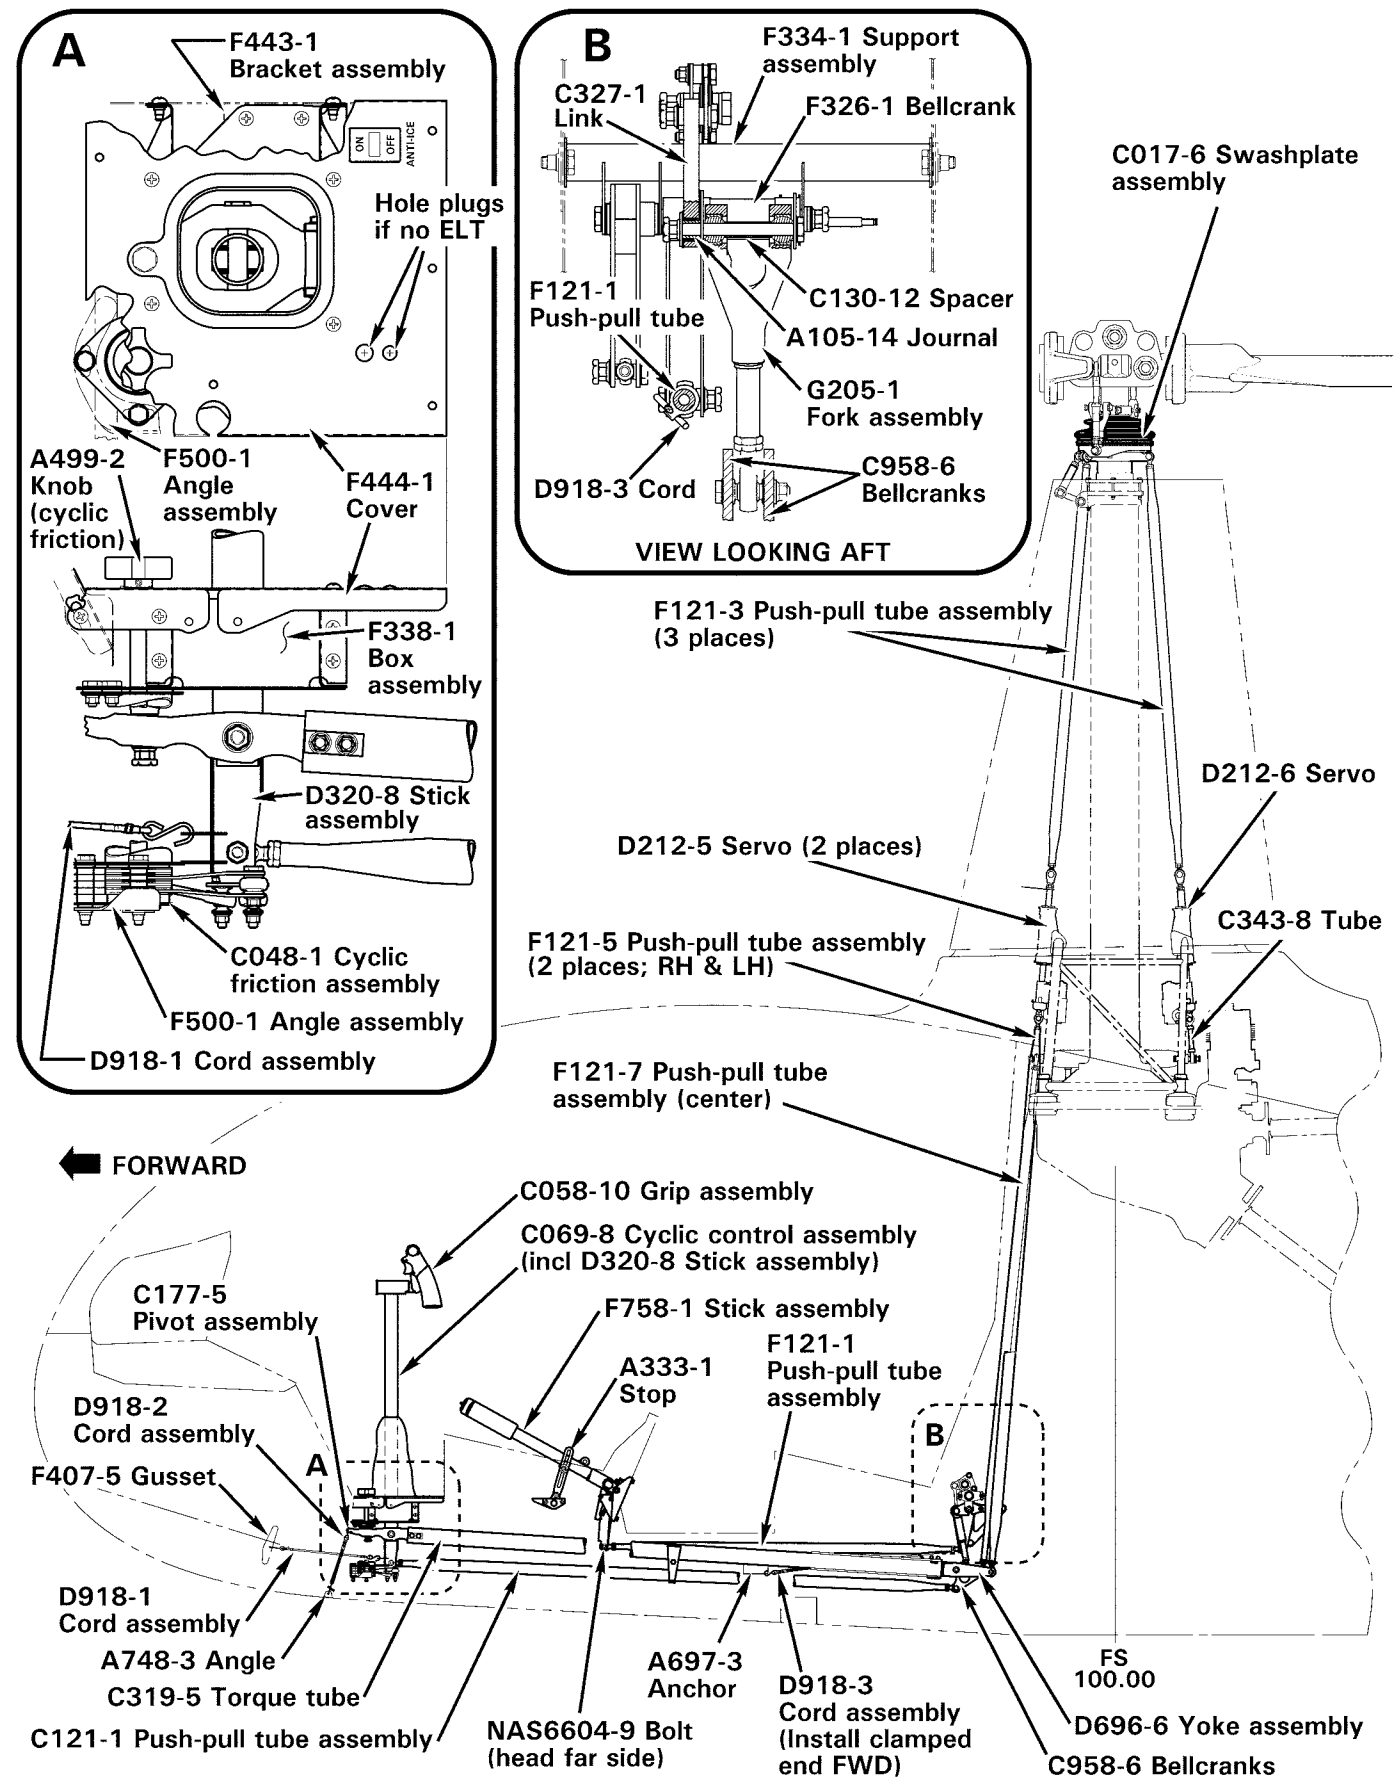

FIGURE 67-1 MAIN ROTOR FLIGHT CONTROLS
3. Refer to Figure 67-1. Unhook D918-1 cord assembly from C069-8 (cyclic) stick assembly and D918-2 cord assembly from C177-5 pivot assembly.
1. Refer to Figure 67-1. Verify center-to-center distance between rod end and spherical bearings in G205-5 fork is 5.40 ± 0.03 inches; adjust as required. Standard torque jam nut and palnut per Section 20-32. Install C175-5 cyclic pivot assembly (torque tube, yoke, bellcranks, fork, and push-pull tube assemblies) thru aft belly.
2. Refer to Figure 67-1. Disconnect wiring connectors attached to wiring exiting base of D320-8 cyclic stick. Using pin extractor, remove pins from housings (wires 112, 138, & 355 may remain installed) and retain housings. Remove lacing tape from both ends of protective sleeving covering wires exiting base of stick assembly. Attach a 3 foot length of safety wire or wire lacing tape to one removed pin.
1. Refer to Figure 67-1. Ensure protective sleeving covers wires exiting grip assembly with one grommet in grip and one (for cyclic stick) on wire bundle (spare grommets may be installed if desired).
1. Refer to Figure 67-1. Disconnect A333-1 collective-travel stop from F348-1 anchor by removing NAS6603 bolt at bottom of stop. Position stop parallel to collective stick and apply collective friction.
1. Refer to Figure 67-1. Position A333-1 collective-travel stop parallel to collective stick and apply collective friction. From aft side of co-pilot's seat, carefully position collective stick assembly in helicopter.
NAS6604-9 bolt connecting forward end of F121-1 push-pull tube to collective must be installed so bolt head is toward right side of helicopter. Refer to Figure 67-1.